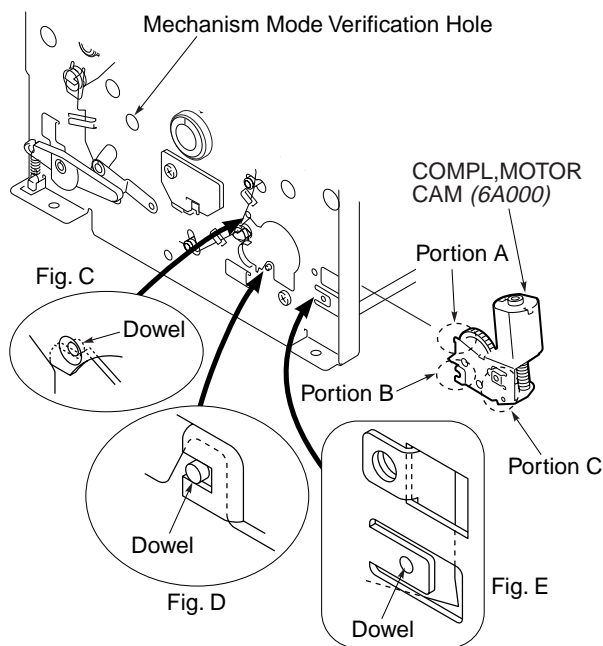

Fig. 3-9-2
- 2) Rotate the worm gear on the "COMPL,MOTOR CAM (6A000)" until the indication shown in the mechanism mode verification hole becomes [1]. (For the location of the mechanism mode verification hole, refer to Fig. 3-9-2.)
6. Install the "COMPL,MOTOR CAM (6A000)" so that portion A, portion B and portion C align accurately with the dowels as shown in Fig. C, Fig. D and Fig. E of Fig. 3-9-2, and tighten the "SCR S-TPG BIN 2.6X4 (6B000)".